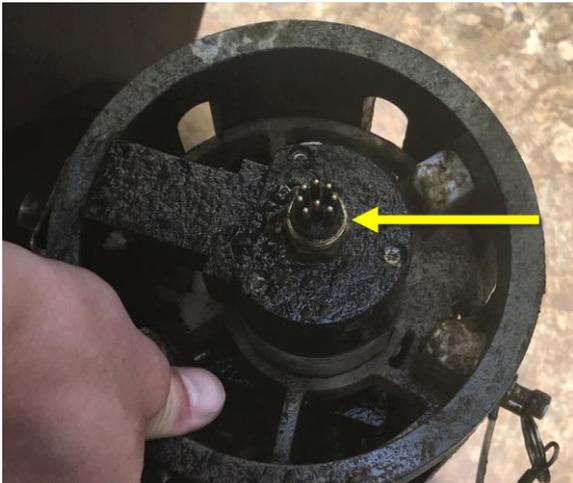

Figure 18. SUNA Bulkhead Connector
**STEP 4** | Disconnect the power cable from the SUNA bulkhead connector. **Figure 18** is the bulkhead connector on the SUNA where you would connect the power cable.